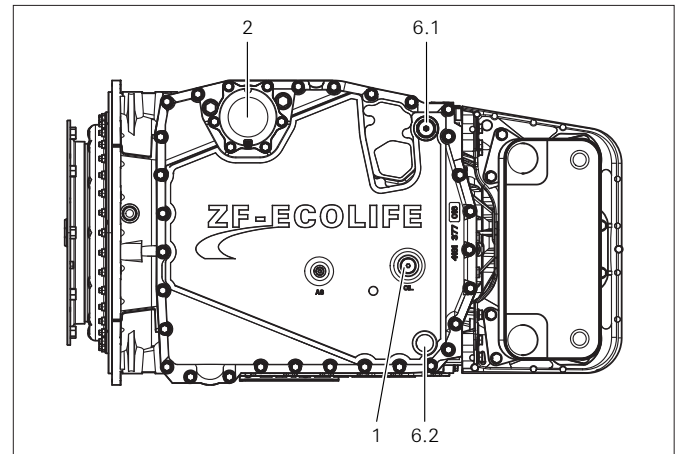

Fig. 1.10 Coaxial transmission with VRM special oil drain
- Screw in special screw plug (6.1 or 6.2, depending on installation position); (refer to Fig. 1.10).